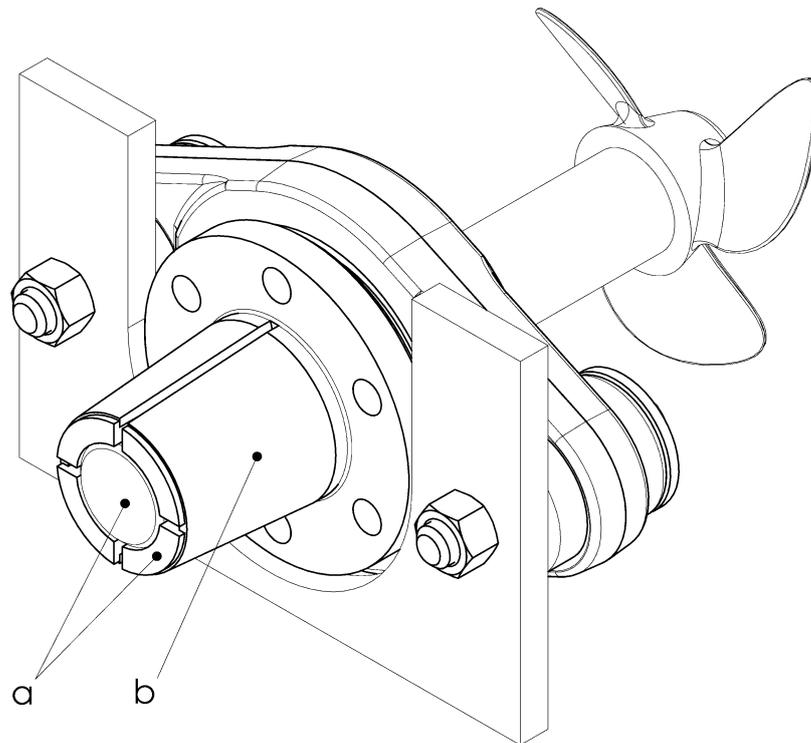

Fig. 6-5 Propeller shaft and bush are flush before mounting
- Insert the bush (4) into the hub (1.5) and push against the stop. (at hubs (1.5) with largest drilling diameter, no bush (4) exists).
- Push the propeller shaft (B) into the hub (1.5) with the bush (4).
- The end of the propeller shaft (B) must be flush with the bush (4) or hub (1.5) [without bush (4)] (Fig. 6-5).
- Lightly grease **only** the cone (b; fig. 6-5) of the hub (1.5).